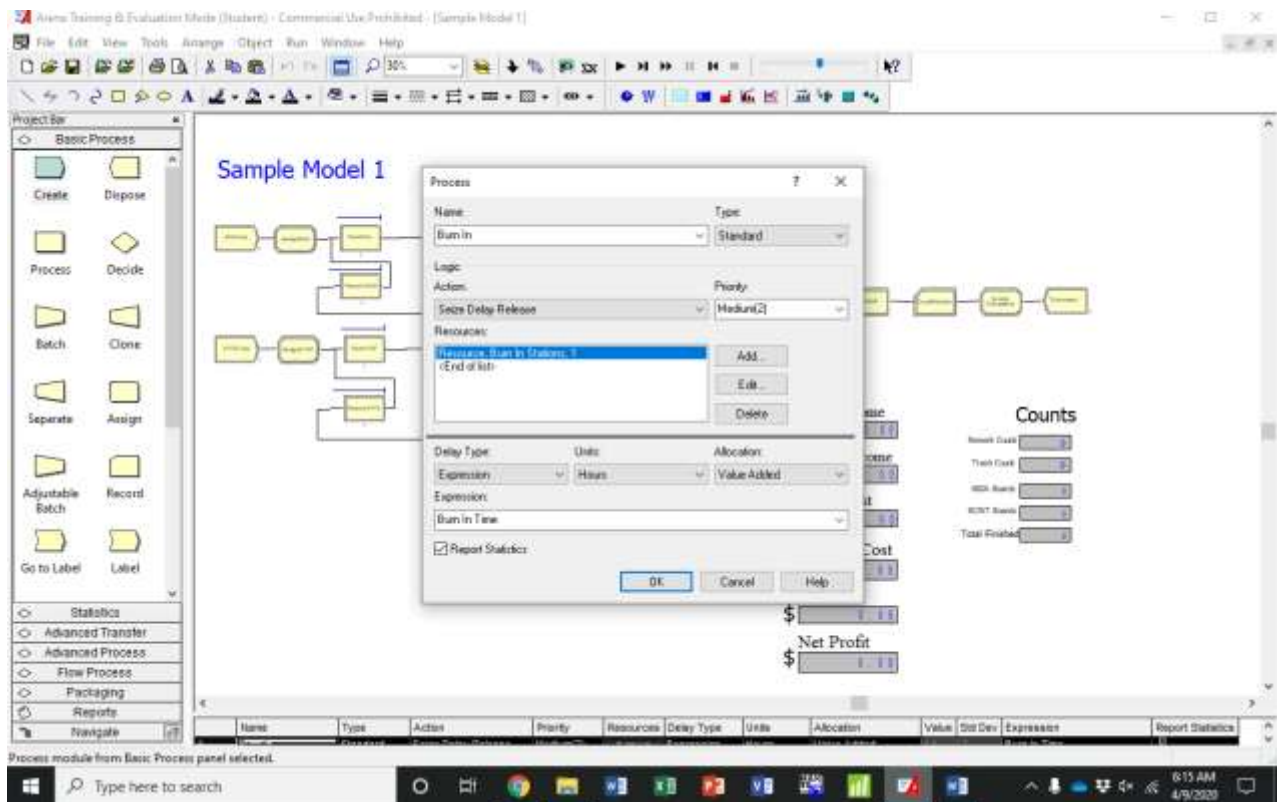

Figure 4.12. Burn In Station as a Resource.
The Action selected pertains to the relationship between the entity and the resource, if any. The option Delay means that the entity is in a holding pattern of sorts. No activity is being performed on the entity. The Seize Delay option means that the entity has seized a resource an activity is being performed on the entity (the delay). The Seize Delay Release option means that the entity has seized a resource, an activity is being performed on the entity (the delay), and then the entity is released to continue on to the next destination. The Delay Release option means that the entity has an activity being performed on it and is then released to continue on to the next destination. Note that the selection of either Seize Delay or Seize Delay Release triggers two significant things: (1) it will automatically create a queue line above the Process module; and (2) we need to add at least one resource (see Figure 4.12).